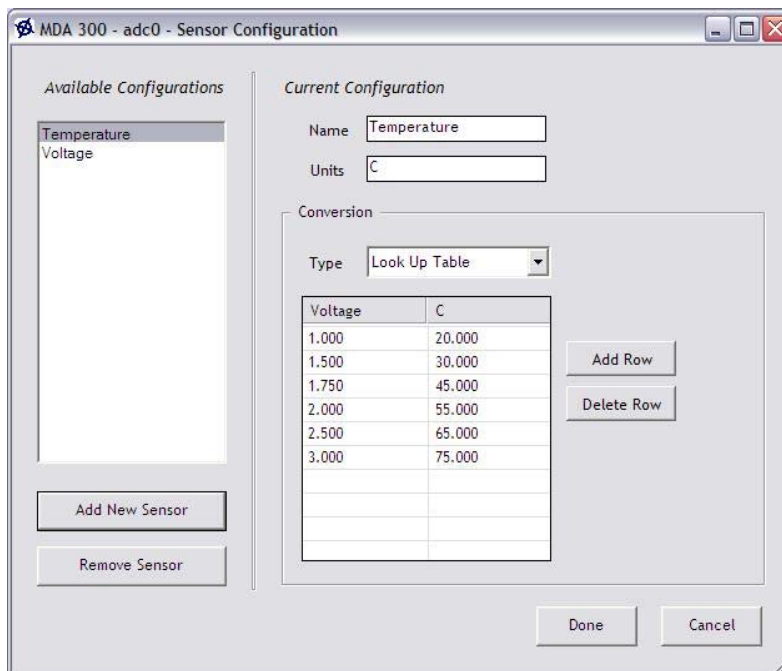

Figure 5-14. MDA300 Sensor Configuration using the Look Up Table Conversion
- b. If you used **Look Up Table** as the conversion type, then input the **Voltage** readings and corresponding engineering values in the table as shown in Figure 5-14. Users can add or delete a row using the **Add Row** or **Delete Row** buttons.